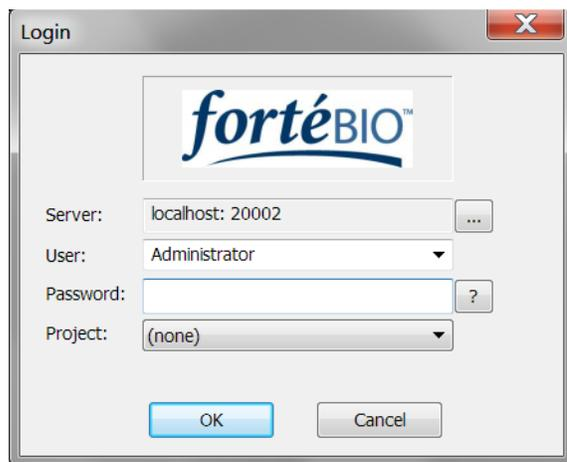

Figure B-22: Login Dialog Box with Server, User, and Project Settings Configured
5. Leave the **Password** blank, set the **Project** to **(none)** and click **OK** (Figure B-22).